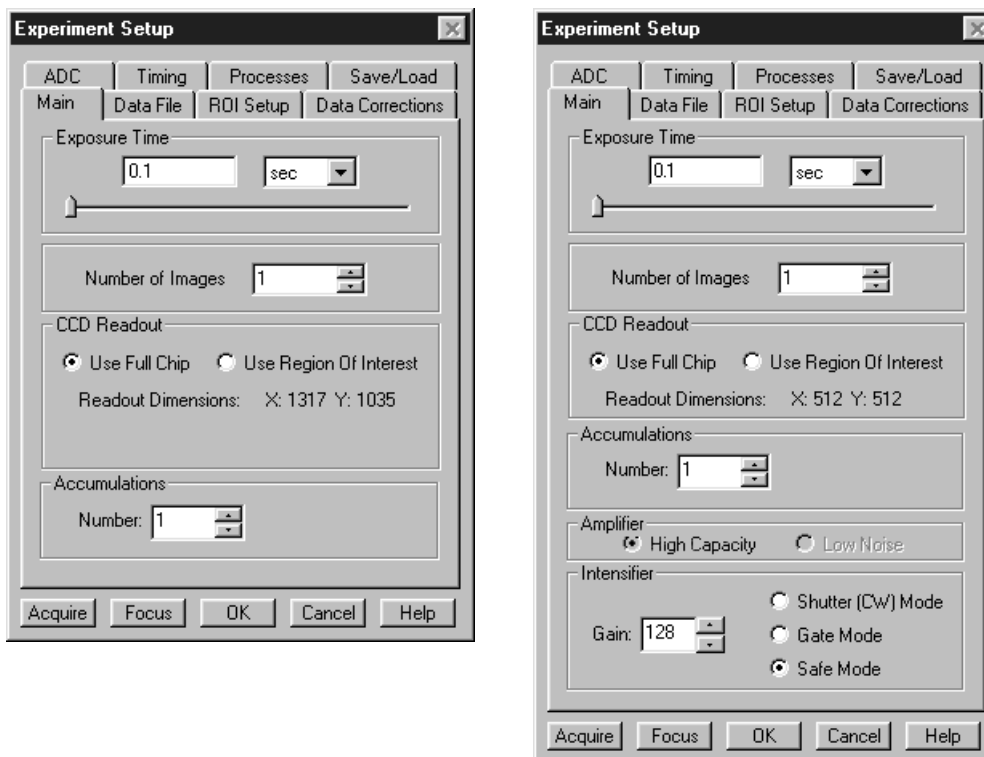

Figure 42. Experiment Setup: Main tab page; left, all but PI-MAX; right, PI-MAX
1. Open the Experiment Setup dialog box (Figure 42) from the Acquisition menu.